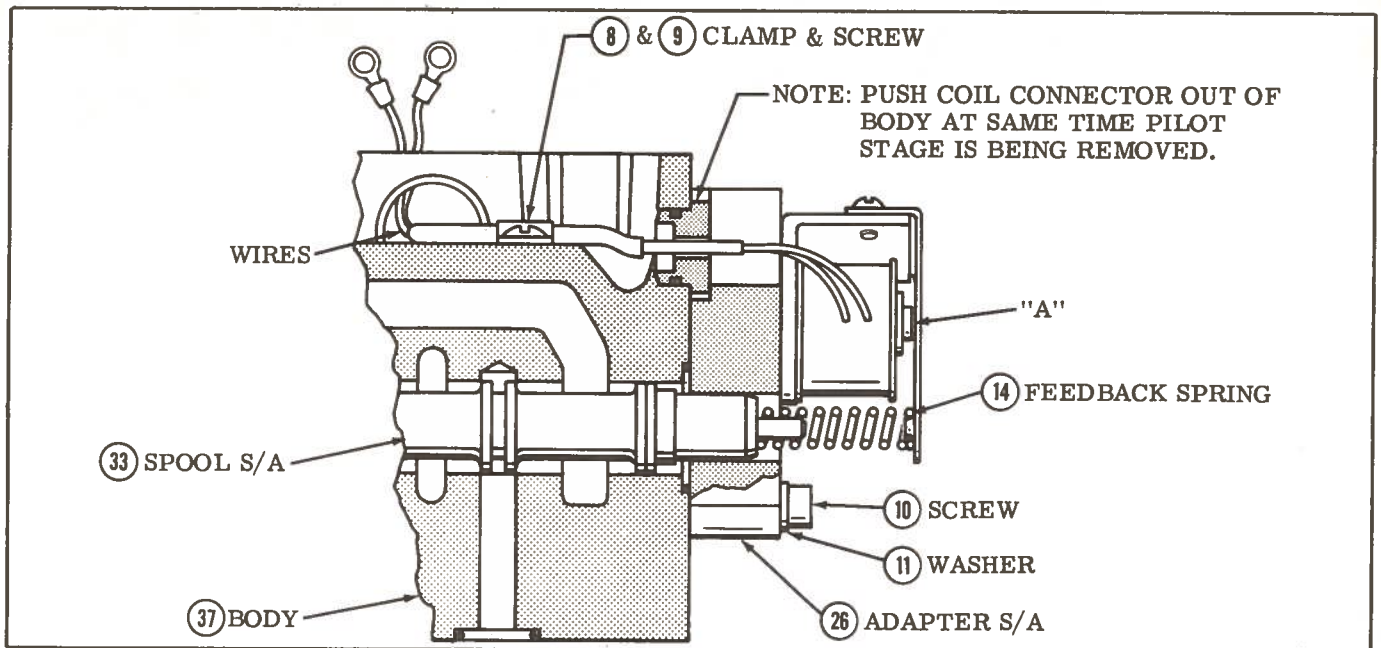

Figure 4. Sectional View
- C. Remove parts (1) thru (11) according to sequence.
D. Remove the pilot stage parts (12) thru (26) as a unit by pulling the adapter (26) from the main stage body (37); at the same time, push the coil connector from the body. See Figure 4. Disassemble the pilot stage according to numerical sequence in Figure 1.
- E. Remove parts (27) thru (37).
C. Install "O" ring parts (29) thru (27) into valve body (37).
D. Insert spool subassembly (33) into body (37). The small end of the spool must extend from the valve approximately one inch. Assemble the pilot stage (adapter subassembly (26)) over the spool for alignment purposes. Guide coil wires thru body hole and align the coil connector with body hole while installing. See Figure 4. Tighten the adapter holding screws (10) and washers (11) alternately until the pilot stage is flush against the valve.
E. Check spool to see that it doesn't bind in the adapter (26) then torque the screws to 16-18 LB. IN. Recheck for binding.
F. Assemble the feedback spring (14) to the flapper armature by twisting the spring over the extrusion until the spring is tight against the flapper armature. Use a twisting motion only, lateral force against the flapper armature may bend it. See Figure 4.
G. Assemble parts (34) and (32) thru (30).
H. Turn adjusting screw (25) until light can just be seen between the flapper and orifice, point "A", Figure 4. This is a preliminary null adjustment.
I. Assemble clamp (9) and screw (8) over the wire. Route the wire ends thru the hole to the outside of the valve. See Figure 4.